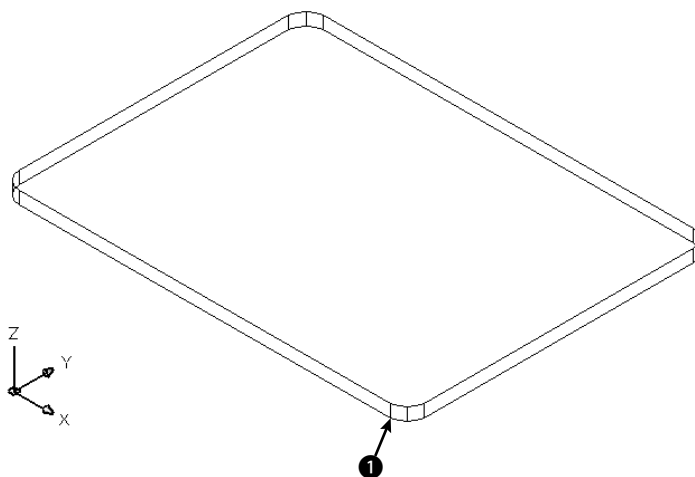

**Figure 23-29:** The tabletop.
2. Save it as ab23-05.dwg in your AutoCAD Bible folder. You see a tabletop. Its bottom is at a Z height of 30. The current elevation is 30. You're looking at the table from the SE isometric view. OSNAP should be on. Set running object snaps for endpoint, midpoint, and center. The current layer is Const. The drawing is shown in Figure 23-29.
_from Base point: Pick the endpoint at ❶ in Figure 23-29.